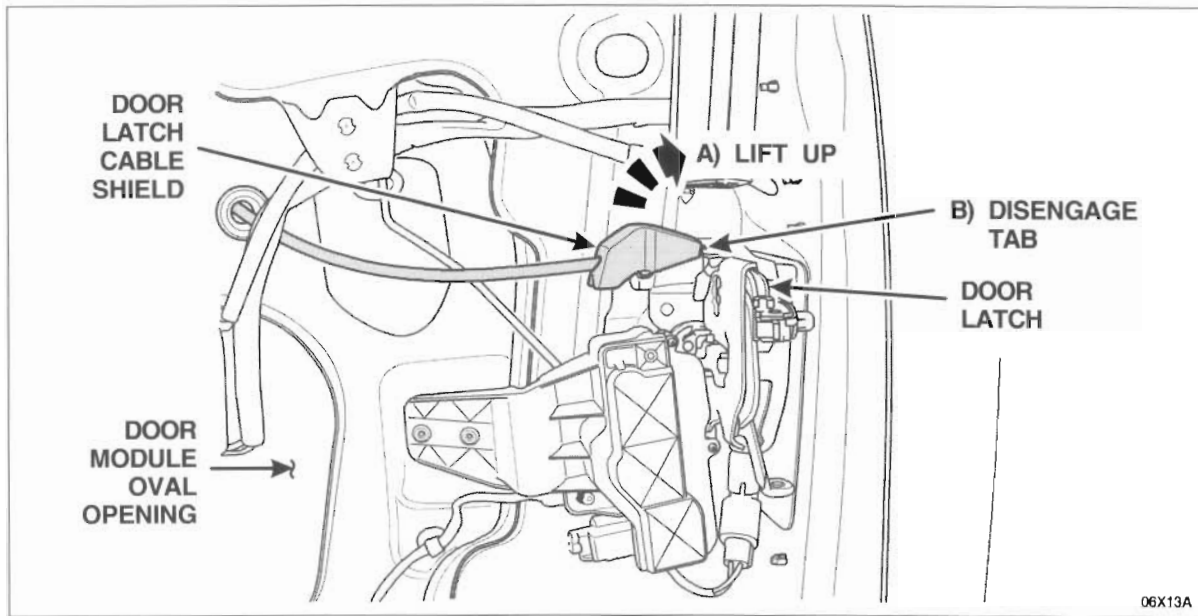

FIGURE 1
- b) Disengage the tab from the latch, then remove and discard the shield. See Figure 1.